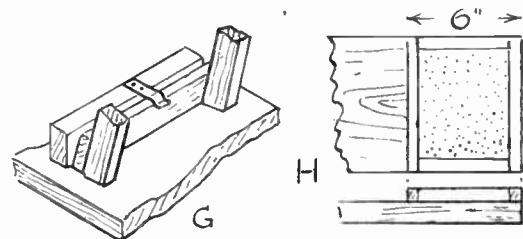

Fig. 3—Holding clip for legs and the iron-rest
A metal spring catch is advisable, to keep the table, when opened out, in position. A simple affair of this, and sketched in detail (G) Fig. 3. It is a short piece of steel or springy brass, screwed